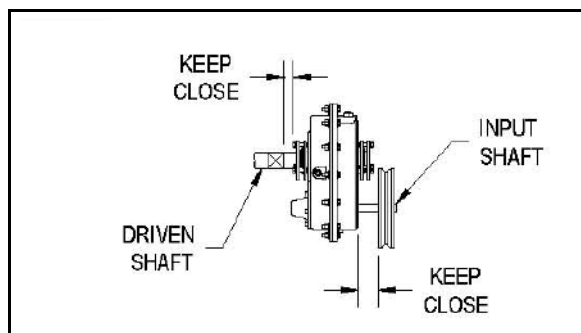

Figure 3.4 Reducer and Sheave Installation
4. Install sheave on input shaft as close to reducer as practical. (See Figure 3.4)